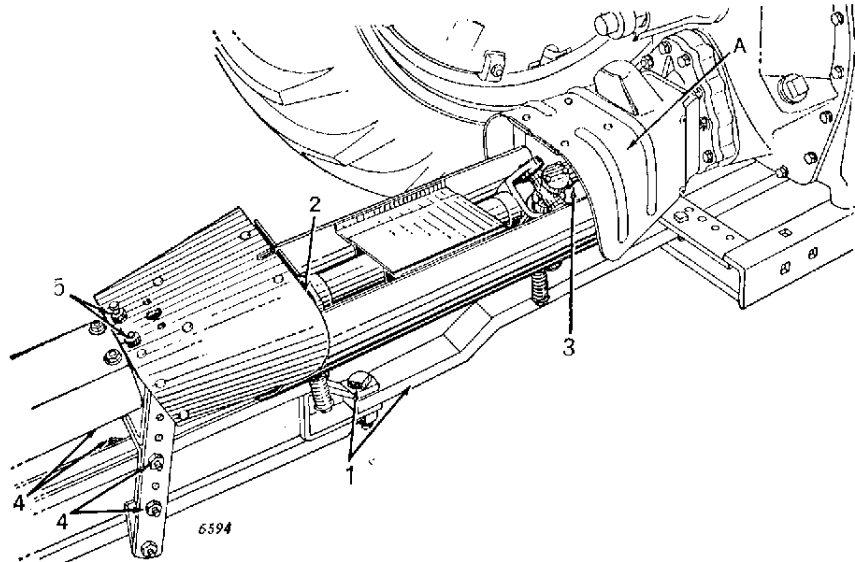

Figure 12
1. (Figure 12) Adjust tractor drawbar so it conforms to settings established by standardization program. (See Pages 16 and 17.) If such dimensions cannot be obtained on tractor, it will be necessary to order conversion parts from **tractor manufacturer**. Be sure tractor drawbar is rigidly secured in a position directly below power line. Connect picker to tractor.
2. (Figure 12) Remove tape around key in front end of telescoping pipe for power drive. Remove cap screw, lugged lock washer, and notched retaining washer from front end of telescoping pipe. Slide rear universal joint onto front end of telescoping pipe and replace notched retaining washer, lugged lock washer, and cap screw. Be sure to fit bent lug on lock washer into notch in retaining washer and to bend remaining lugs on lock washer over head of cap screw.
3. (Figure 12) Slide front splined universal joint onto take-off shaft and secure in place with clamp bolt.
4. (Figure 12) Adjust the height of power shaft front bearing as shown.
5. (Figure 12) Bolt power shaft shield to rear set of holes in power shaft front bearing housing.
- L. **Tractor must have a master shield to which connecting shield (supplied by Implement Manufacturers) can be attached.** (See "A," Figure 12.)